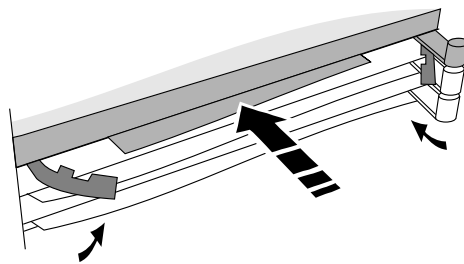

Figure 4. Installing Routing Engine
10. Pull the locks on the bezel outward; then push evenly on both ends of the bezel until it engages fully and the locks swing inward to about 45°. See figure 4.